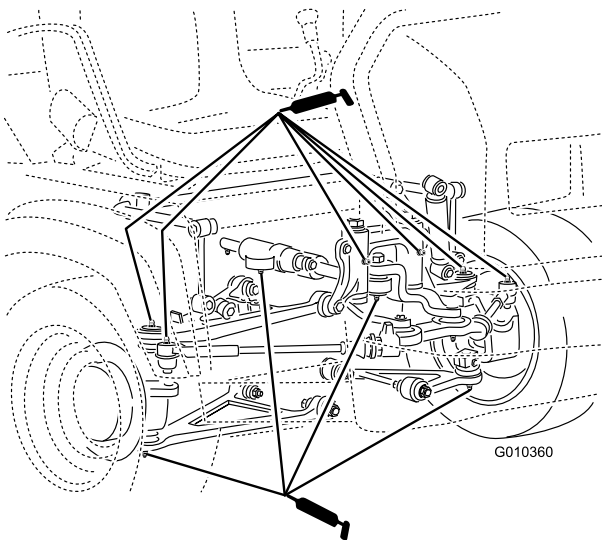

Figure 36
- **Ball joints (4);** refer to Figure 36
- **Pivot mounts (2);** refer to Figure 36
- **Steering cylinder (2);** refer to Figure 36
- **Tie rods (2);** refer to Figure 36